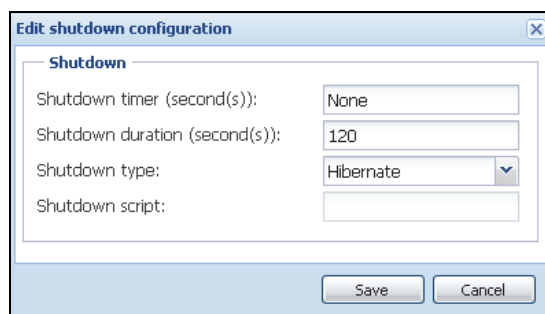

Figure 27. Edit Shutdown Configuration Dialog Box
3. Click **Edit shutdown configuration**. The Edit Shutdown Configuration dialog box displays (see Figure 27).